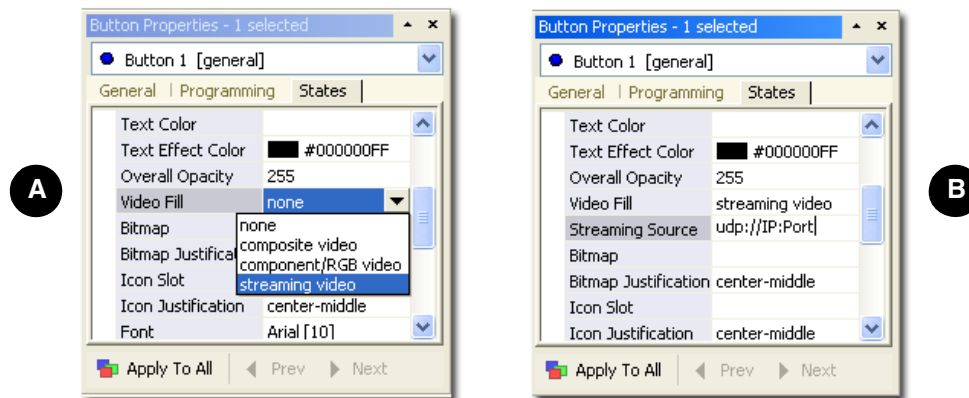

FIG. 134 Video Fill - Button Properties setting
11. Double-click the **All States +** symbol to expand this folder (FIG. 134) and locate the *Video Fill* field.
12. Use the *Video Fill* drop-down arrow to select the **Streaming Video** option (A in FIG. 134).
13. Within the newly added *Streaming Source* field, enter the Transport Protocol, IP Address of the MAX-CSE, and Target Video Port (B in FIG. 134).